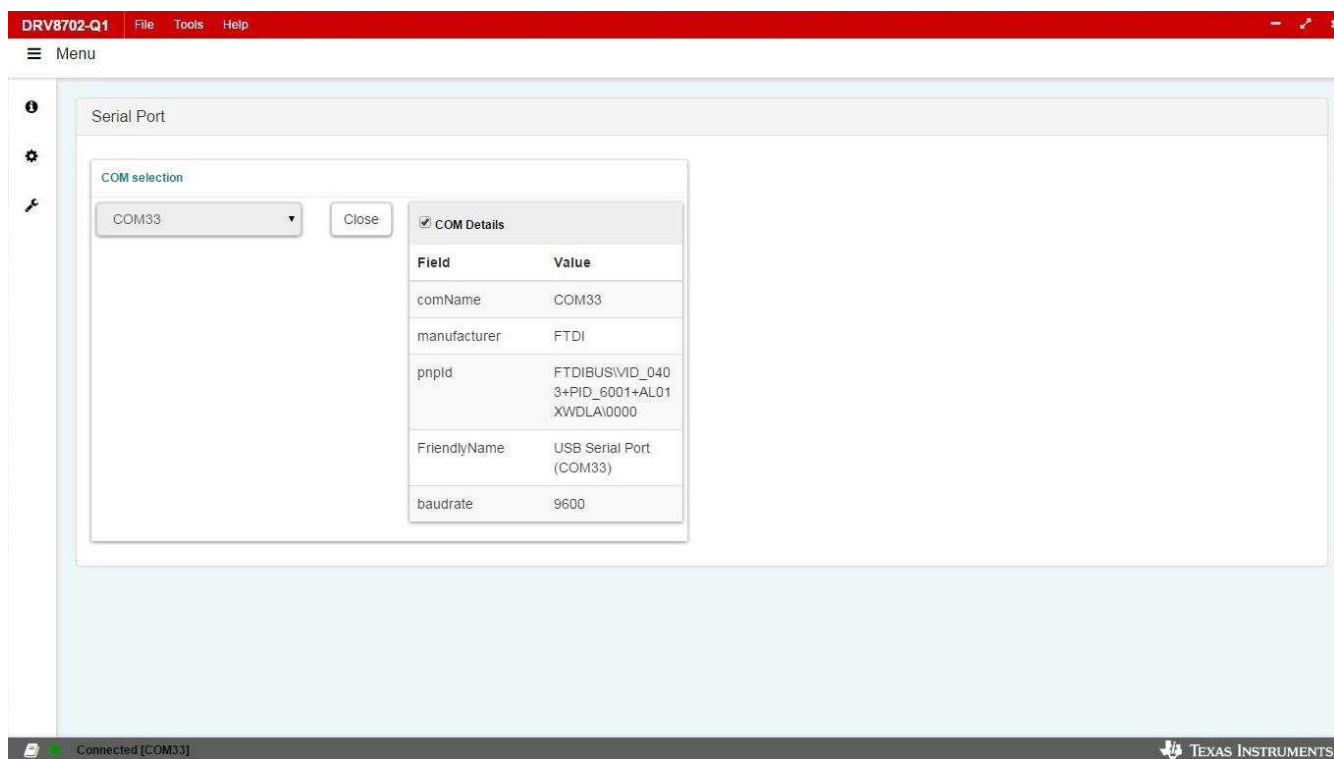

Figure 6. DRV8702-Q1-EVM GUI (COM Opened)
- Step 6. After the GUI connects, the window in Figure 6 is displayed. Verify that the COM port name (COM port number may differ), and baud rate match what is shown in Figure 6. The bottom left corner of the status bar shows a green indicator to indicate the connection with the opened COM mentioned in the bracket.